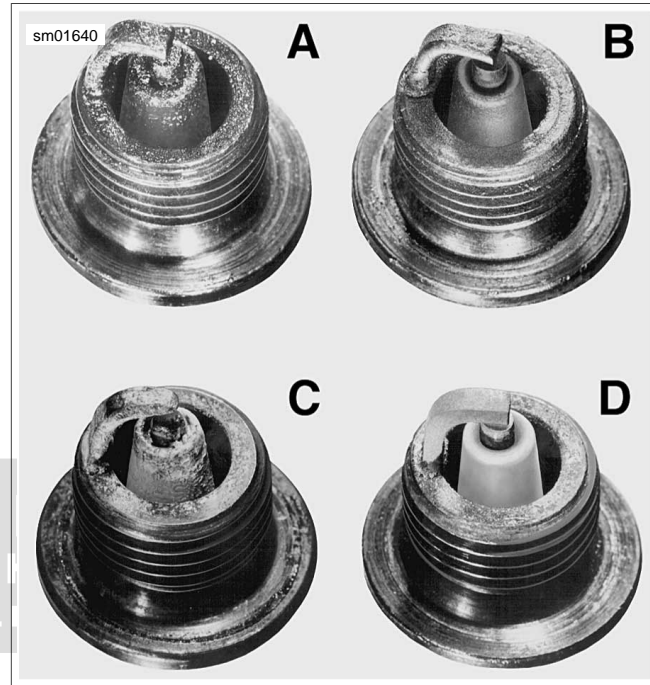

Figure 1-43. Typical Spark Plug Deposits
3. See Figure 1-43. Compare your observations of the plug deposits with the descriptions provided below.